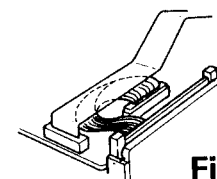

Fig. 2
4. Attach the cable from the TSU-3 as Fig. 2. The cable should be routed under the ribbon cable that goes to the front panel.